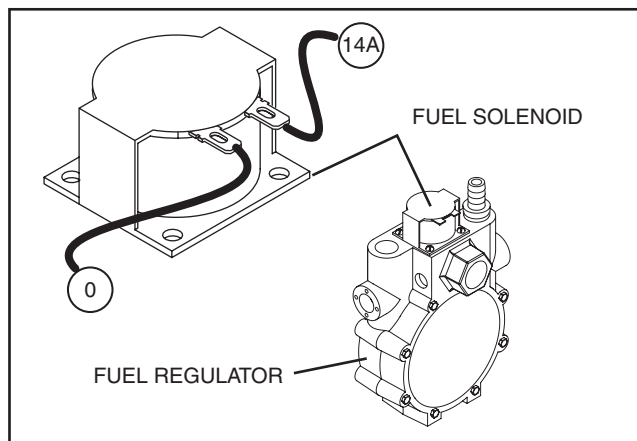

Figure 7-13. – The LPG Fuel Solenoid (FS)
6. For LPG models, disconnect Wire 14A from the LPG Fuel Solenoid (FS)(see Figure 7-13). Connect the VOM positive (+) test lead to Wire 14A. Connect the VOM negative(-) test lead to frame ground. Repeat Steps 4a and 4b. Battery Voltage should be measured when the Primer Switch is activated.